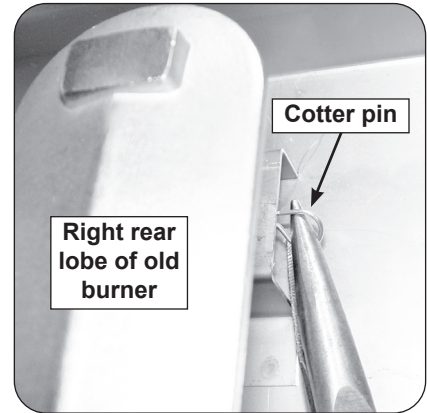

Fig. 2-1 Remove the cotter pin
5. Remove the cotter pin from the right rear burner anchoring peg using needle-nose pliers. Pull it straight out of the cotter pin hole (see Fig. 2-1).